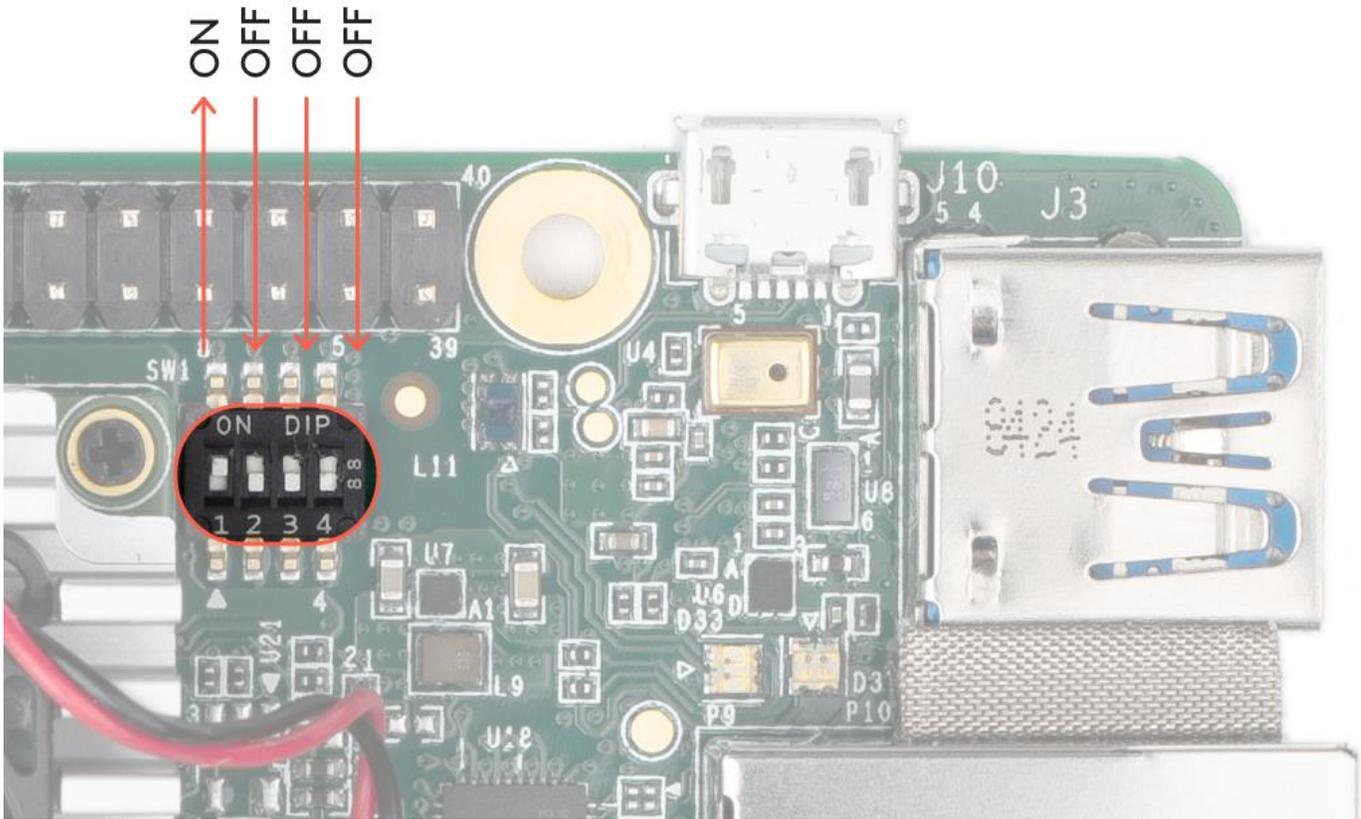

Figure 7. Boot switches set to eMMC mode
2. The boot mode switches are set to eMMC mode (see figure 7):